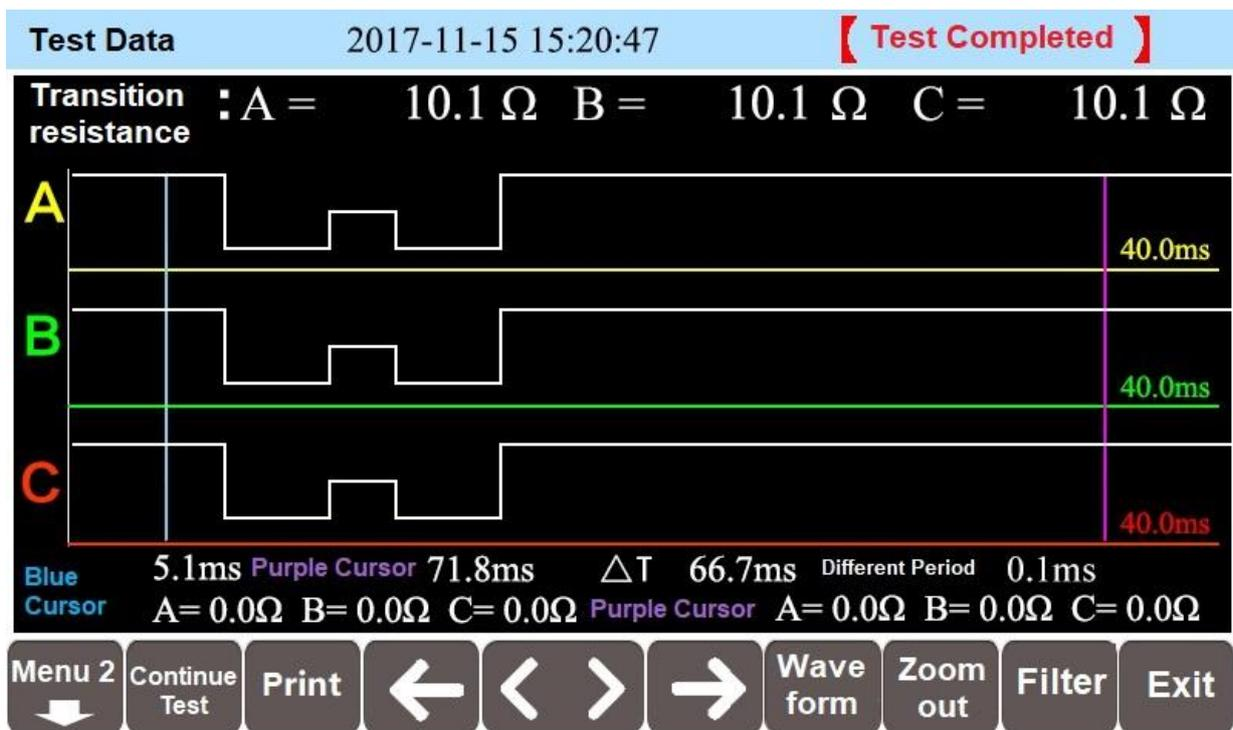

Figure 5
2.3 The instrument will automatically capture the action of the OLTC and process waveforms. After OLTC switching completion, the instrument will show the processed waveforms on the interface, See test data "Menu 1" as shown in Figure 5.